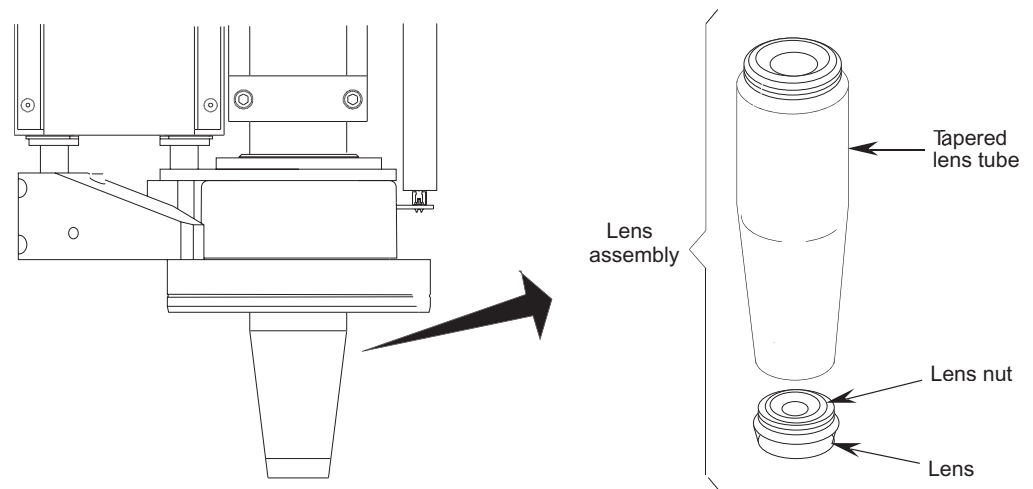

Figure 6-8 Summit 800 Lens Assembly
Refer to the Figure 6-8 as you proceed through this section:
2. Unthread the lens tube assembly from the **system** (see Figure 6-8), using caution not to touch the plated surface of the light ring.